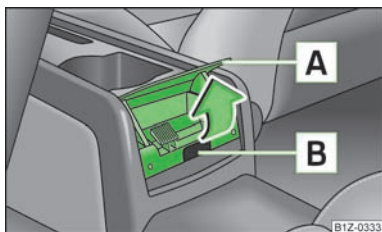

Fig. 65
- Grasp the ashtray cover at the lower edge [A] » Fig. 65 and fold it open in the direction of arrow.
- Grasp the ashtray at the handle [B] » Fig. 65 and remove from above.